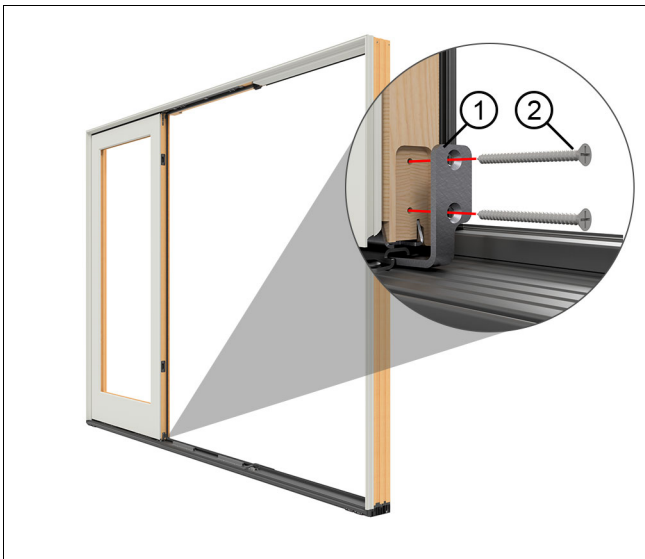

Figure 58
7. Install the sill to panel bracket. Slide the bracket under the sill bracket (attached to the sill). Then fasten to the stationary panel with #8 x 2" screws provided. See Figure 58.